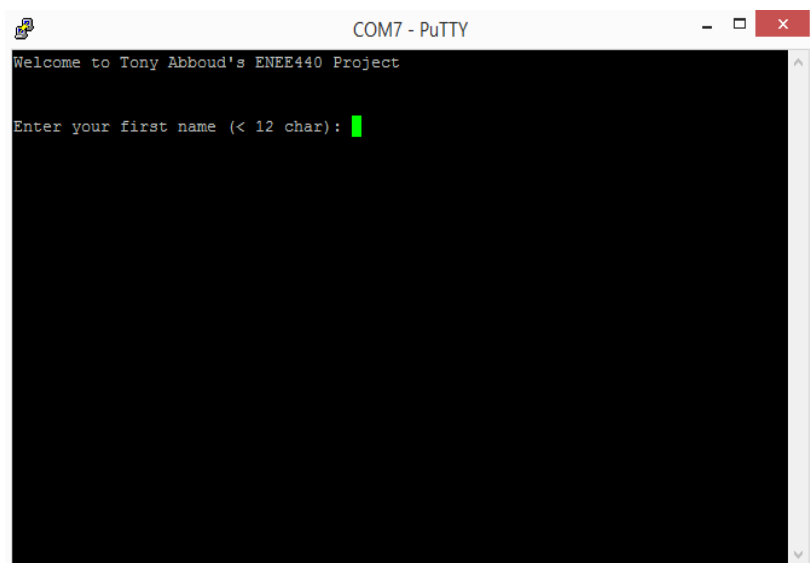

Figure 5: Project Welcome Screen
9. You are now running the program live (see Fig. 5)